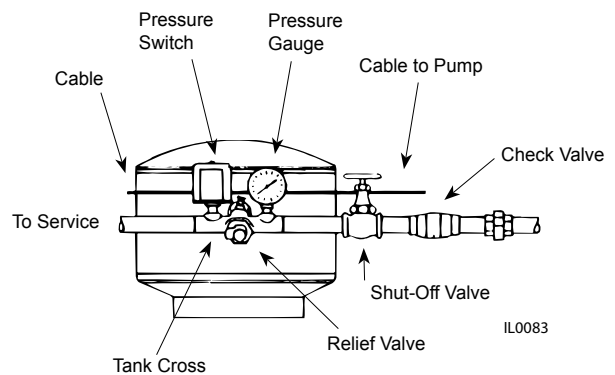

Figure 13
4. An additional check valve should be installed in the horizontal line between the well top and the pressure tank (See Figure 13.) **CAUTION** Make certain that the check valve is pointing in the right direction with arrow pointing toward tank.